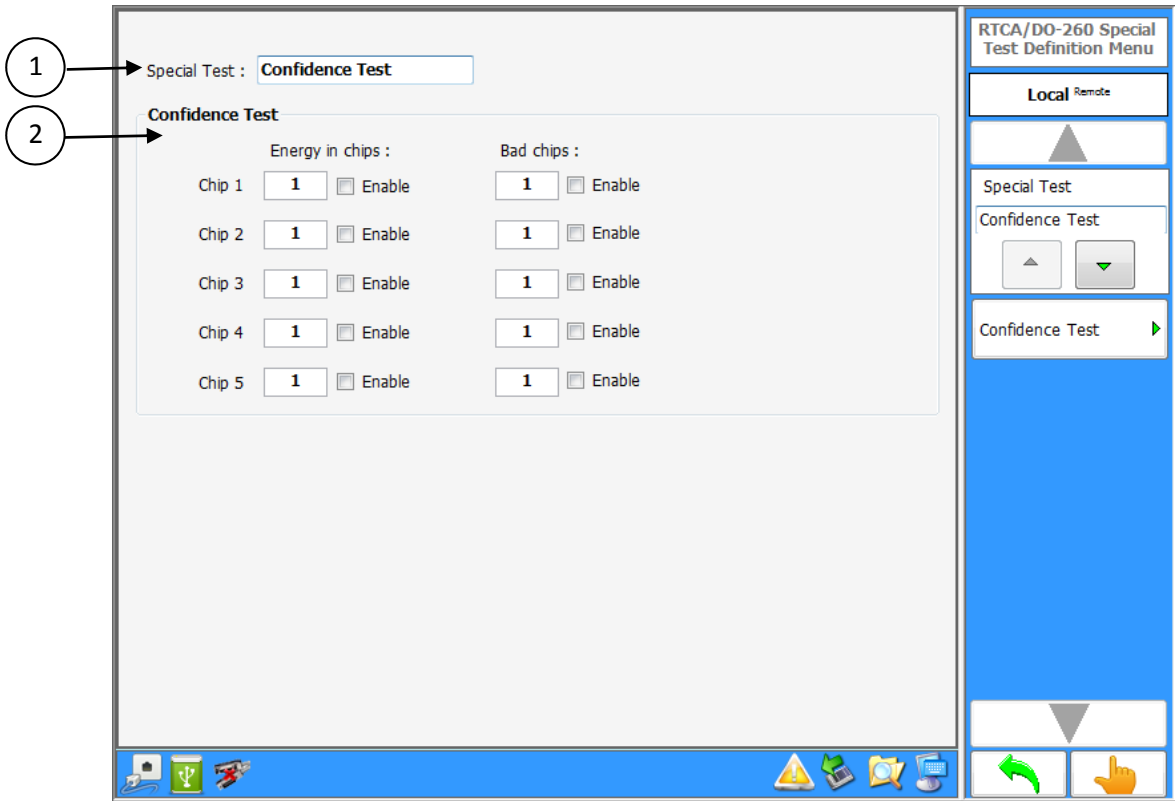

Figure 3.1.2.4.1.8 – RTCA/DO-260 Special Test Confidence Test Menu
Figure 3.1.2.4.1.8 illustrates the RTCA/DO-260 Special Test Confidence Test Definition Menu. This menu allows the operator to specify upto five (5) chips that have energy on both halves of the chip and five (5) chips that are bad chips (data bit is reverse). For bad chips the PI field is calculate using the correct data and then the chip value is reversed.